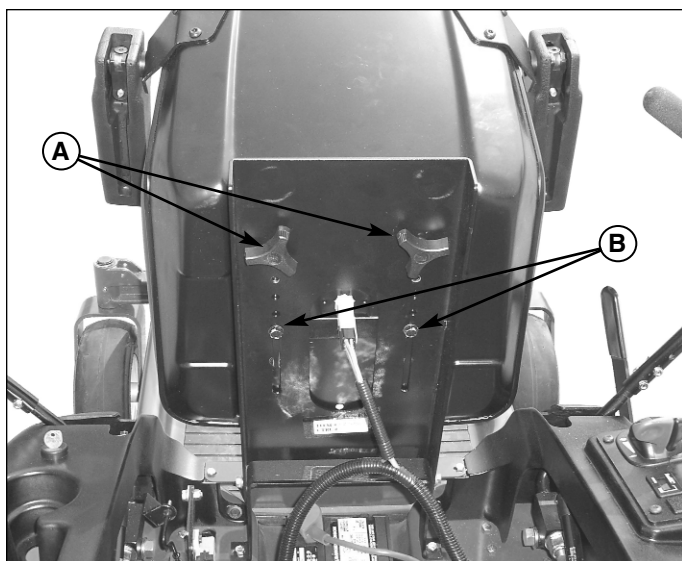

Figure 20. Seat Adjustment
See Figure 20. The seat can be adjusted forward and back. Remove the knobs (A), and loosen the support bolts (B). Slide the seat to the desired position, then reinstall the knobs and retighten the bolts.